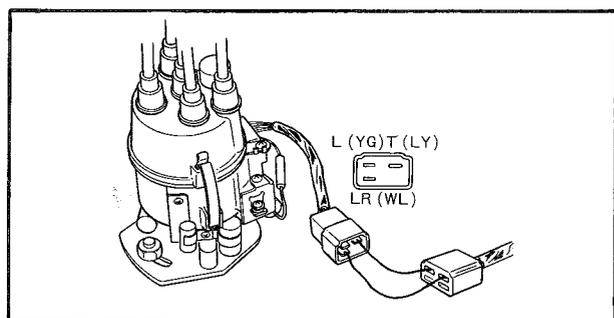

Fig. 5-32 Connecting coupler
Note: When checking the dwell angle of leading retard, remove the coupler of the distributor and connect the jumper wire to both terminals in the coupler as shown in Fig. 5-32.
9. Disconnect the coupler of the distributor and connect the jumper wires to the end of the separated couplers as shown in Fig. 5-32.